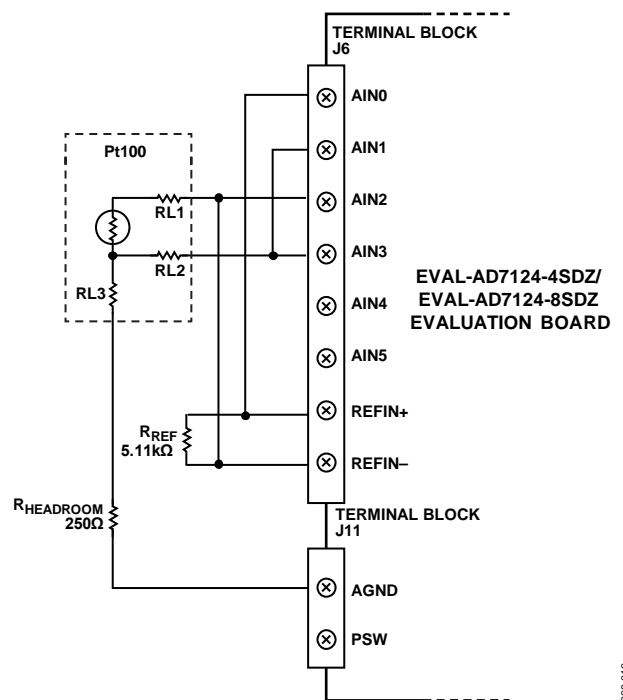

Figure 16. EVAL-AD7124-4SDZ/EVAL-AD7124-8SDZ Evaluation Board Connector for 3-Wire RTD Measurement
- Connect the RTD, precision reference resistor, and resistor for headroom as shown in Figure 16.